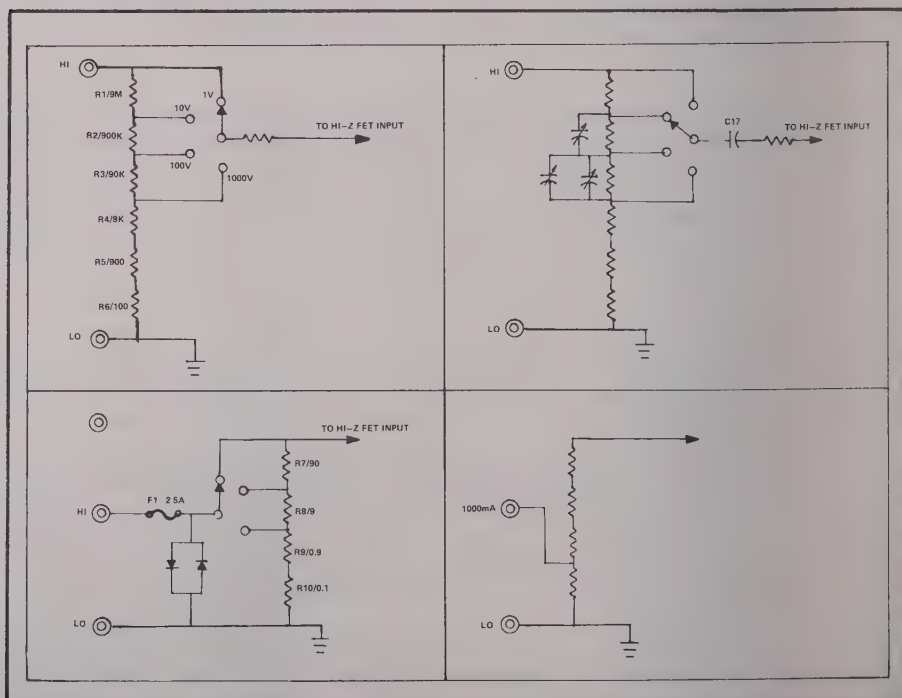

Figure 3-2. Signal Conditioning Simplified Schematic
Figure 3-2 illustrates the operation of the switching circuit in programming the precision resistor and shunt networks in the different measuring modes. The following operational comments may be observed:
- a) When R14 (Front Panel ZERO) is adjusted properly, the input differential FET stages are balanced, and the output IC2 pin 7 then follows the input to Q1 (see figure 3-2) (X1-0) in Voltage and Resistance measuring functions.